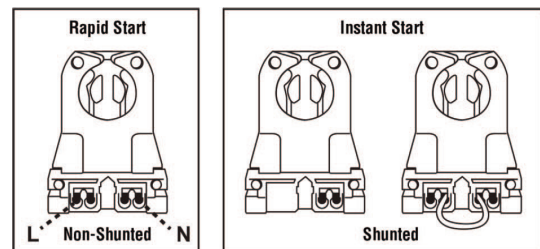

Fig. 1 - Non-shunted & Shunted Lamp Holder
6. Ensure that the fixture contains non-shunted G13 bi-pin lamp holders (**Fig.1**). If socket lamp holders are internally shunted, then replace with new non-shunted socket lamp holders. If socket lamp holders are shunted with a jumper wire, remove wire to convert into non-shunted sockets.